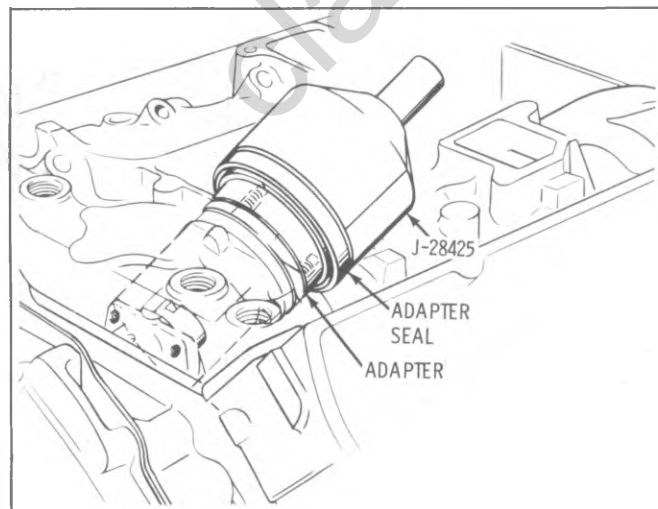

Fig. 6A3-29--Installing Adapter Seal
- ROCKER ARM ASSEMBLIES (Figs. 6A3-31 & 6A3-32)**